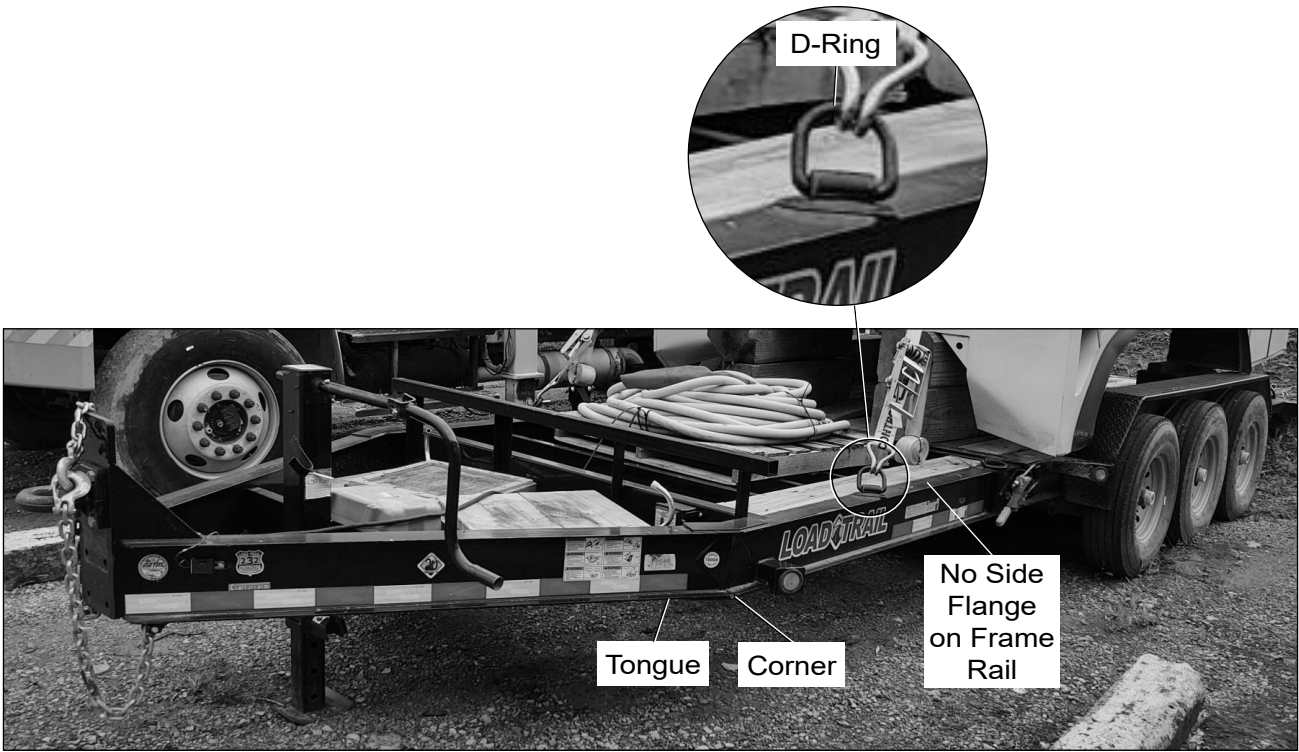

Figure 8 – Load Trail Revision B Trailer Without Side Flanges
2. On a Revision B trailer without side flanges, the angled tongue frame rails connect at the corners of the stationary cargo deck and the D-ring mounting plates are centered on the top plate width of the cargo deck frame rails which do not have side flanges installed on them (refer to Figure 8). This type of trailer requires the D-Rings Kit for Load Trail Trailer Revision B Without Side Flanges, part number 991346931.